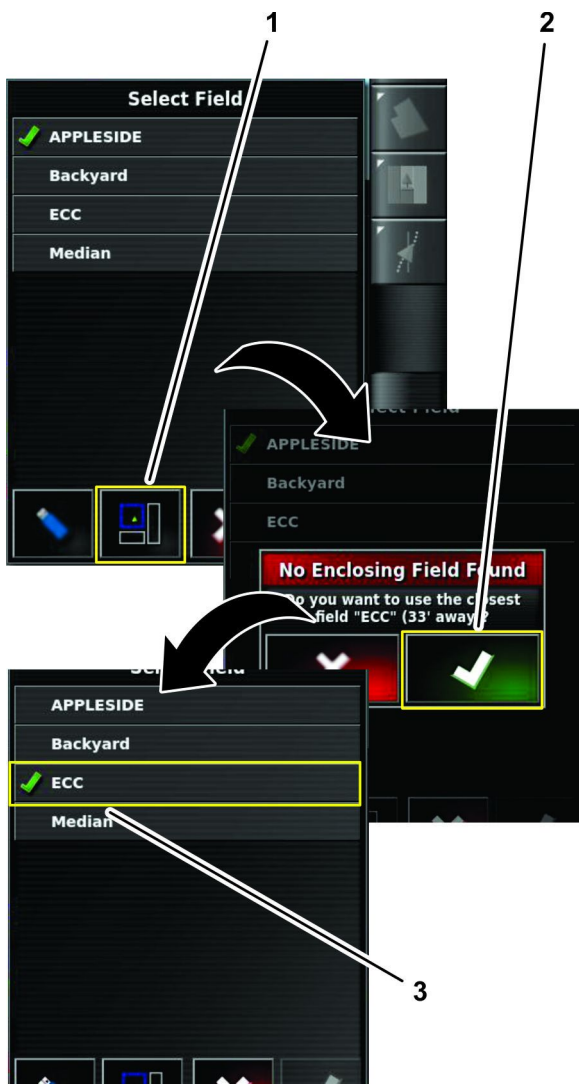

Figure 37
1. In the select field list, press the Nearest GPS field boundary icon (Figure 37).
2. Press the confirm icon (Figure 37).